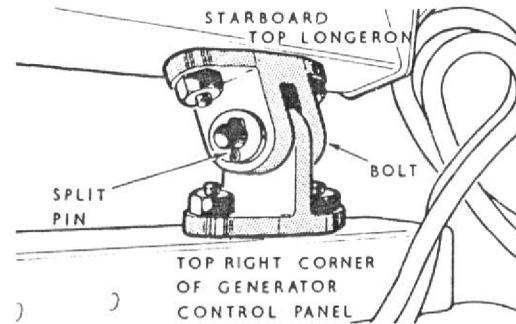

Fig. 3. Generator control panel upper attachment
- (1) Render the aircraft electrically safe (Group A.1).
- (2) Remove the radio access door.
- (3) Disconnect cable assemblies C37, C38, F52 and C5 from the differential cut-outs and the battery relay mounted on the control panel. Remove any straps and clips securing these cable assemblies, insulate the bare cable ends and stow the assemblies away from the panel.
- (4) Disengage the four Dzus fasteners securing the bottom of the panel and swing the panel up to gain access to cable assembly F49 at the top of the supply panel.
- (5) Disconnect cable assembly F49 from the plug located at the top of the supply panel. Seal off the plug and socket with an approved cap and cover.
- (6) With a second person supporting the panel, withdraw the two top hinge pins by removing the split-pins and washers (fig. 3).
- (7) Lower the panel and remove it from the aircraft, complete with cable assembly F49.